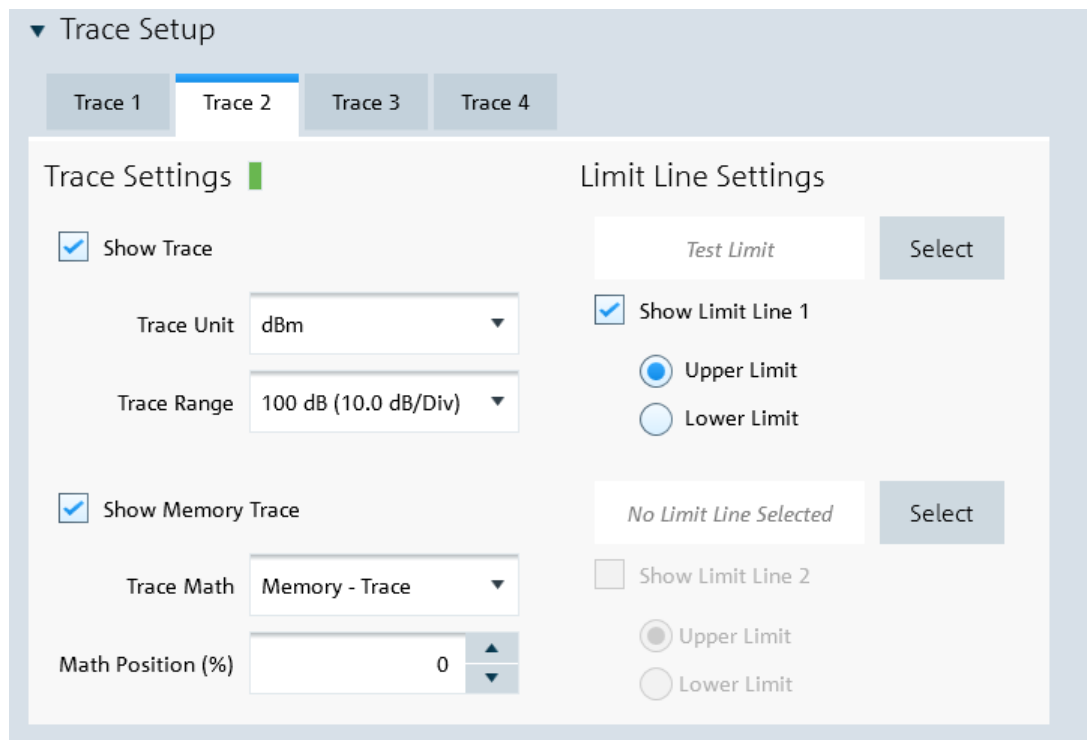

Figure 4-5: Trace setup
- Each trace is represented with a different trace color. If there are more than one trace in the same trace window, you can go to the individual trace tab to disable or enable the "Show Trace" check box to set the trace display. See Figure 4-5.